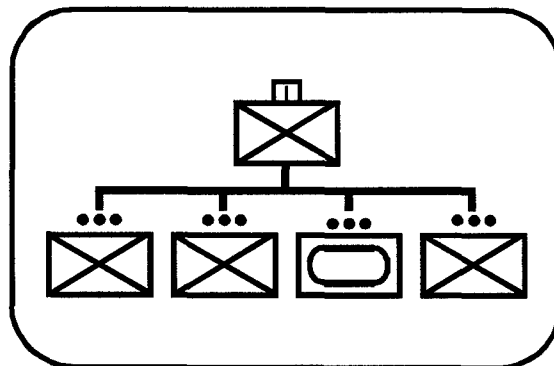

Figure 4-1
□ **Put the tank platoon under company control (see Figure 4-1).** The tank platoon leader *should be responsible* for maneuvering the tanks in accordance with the *commander's intent*. With this task organization, tanks would most likely be used in *support by fire* and *overwatch* missions. This task organization is **the most difficult to maneuver tanks with the infantry**. However, the tank platoon leader can choose to maneuver the platoon by sections to execute the mission. This would provide greater flexibility in supporting the infantry *during the close fight*.